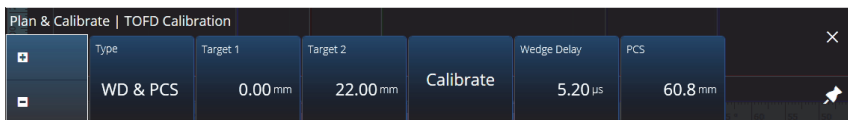

Figure 4-9 TOFD Calibration – WD & PCS
On the **TOFD Calibration** tab, you can calibrate the TOFD group so that the cursor readings are converted to depth instead of time. This is typically done during Analysis, but it can be done before. The TOFD calibration has a simplified process and is done outside of a calibration wizard. To access the **TOFD Calibration** options, go to **Plan & Calibrate > TOFD Calibration** (see Figure 4-9 on page 180 and Table 81 on page 181).
1. Choose the calibration type (see Figure 4-9 on page 180 and Table 81 on page 181).